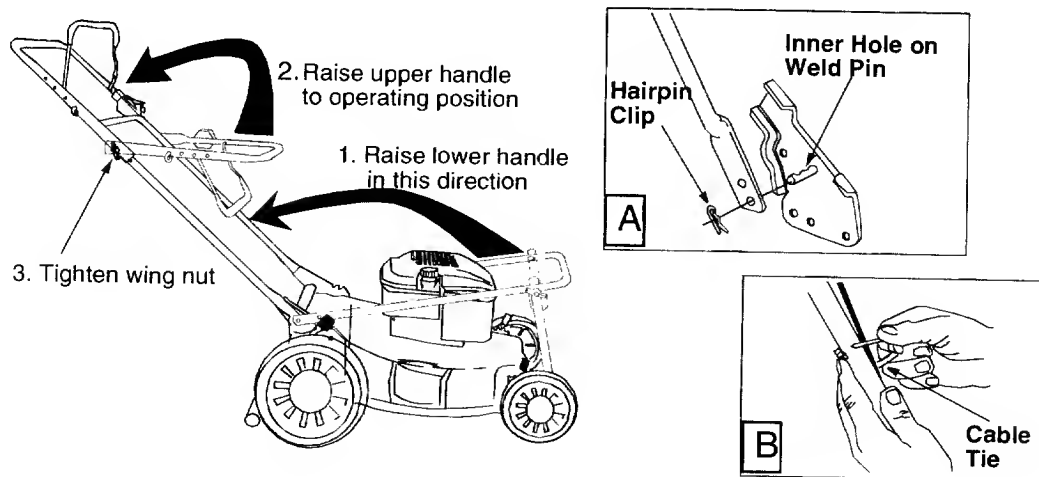

FIGURE 3
- Using a pair of pliers, insert the hairpin clip into the inner hole in the weld pin. Repeat on other side. See Figure 3 inset A.
- Raise the upper handle in the direction shown in Figure 3. Tighten the wing nuts which are already on the handle.